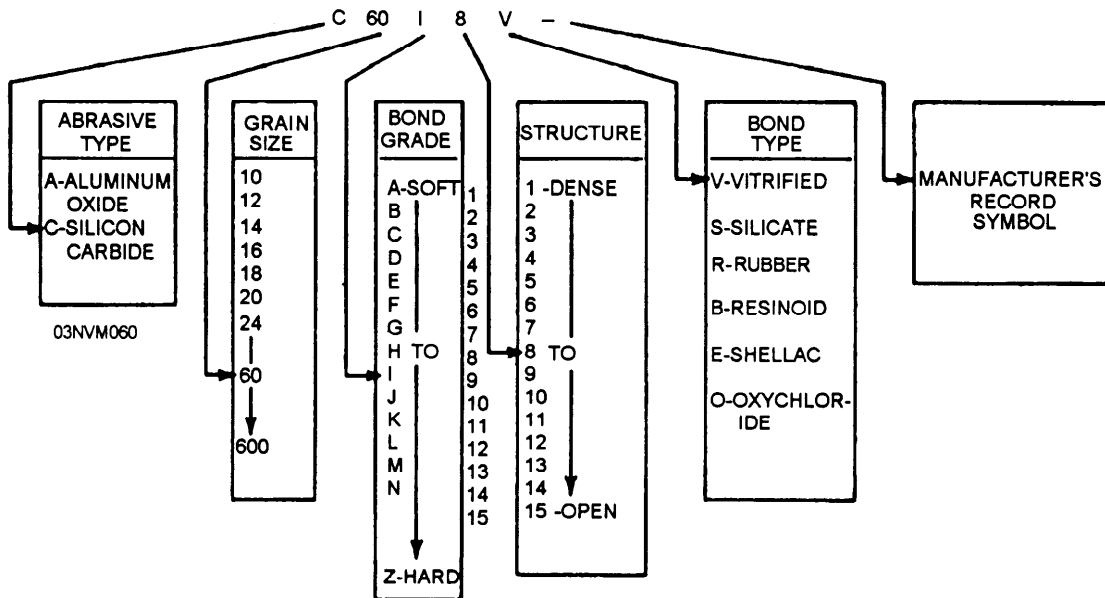

Figure 5-60.—Standard marking system for grinding wheels (except diamond).
WHEEL MARKINGS AND COMPOSITION.—Grinding wheel markings are comprised of six sections, each of which identifies a characteristic of the wheel. The six sections are (1) type of abrasive, (2) grain size, (3) bond grade, (4) structure, (5) type of bond, (6) the manufacturer's record symbol. Figure 5-60 shows the standard marking system and possible